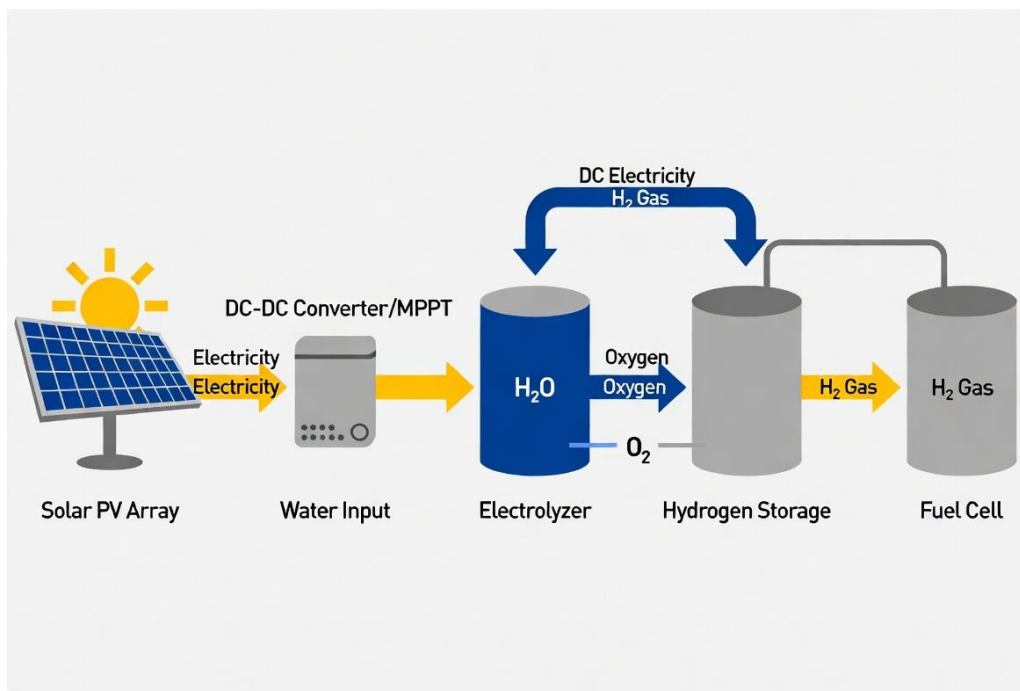

Figure 4.1 Solar PV-Hydrogen Integrated System
Solar-powered hydrogen systems use solar photovoltaic (PV) energy to operate electrolyzers for hydrogen production. These systems are important for clean and sustainable hydrogen generation. Figure 4.1 illustrates the Solar PV-Hydrogen Integrated System which has the following process: